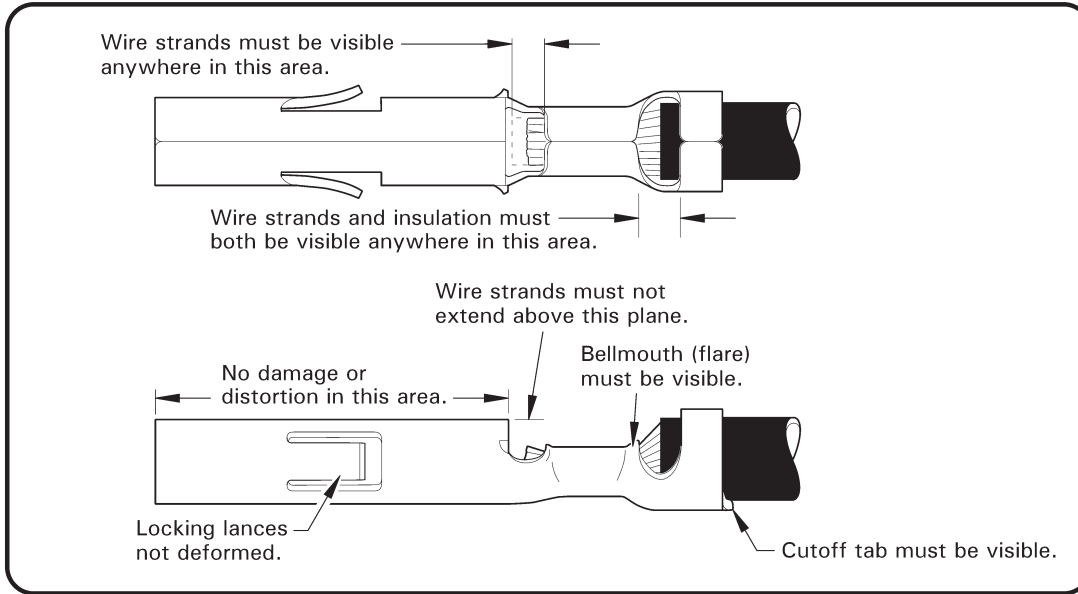
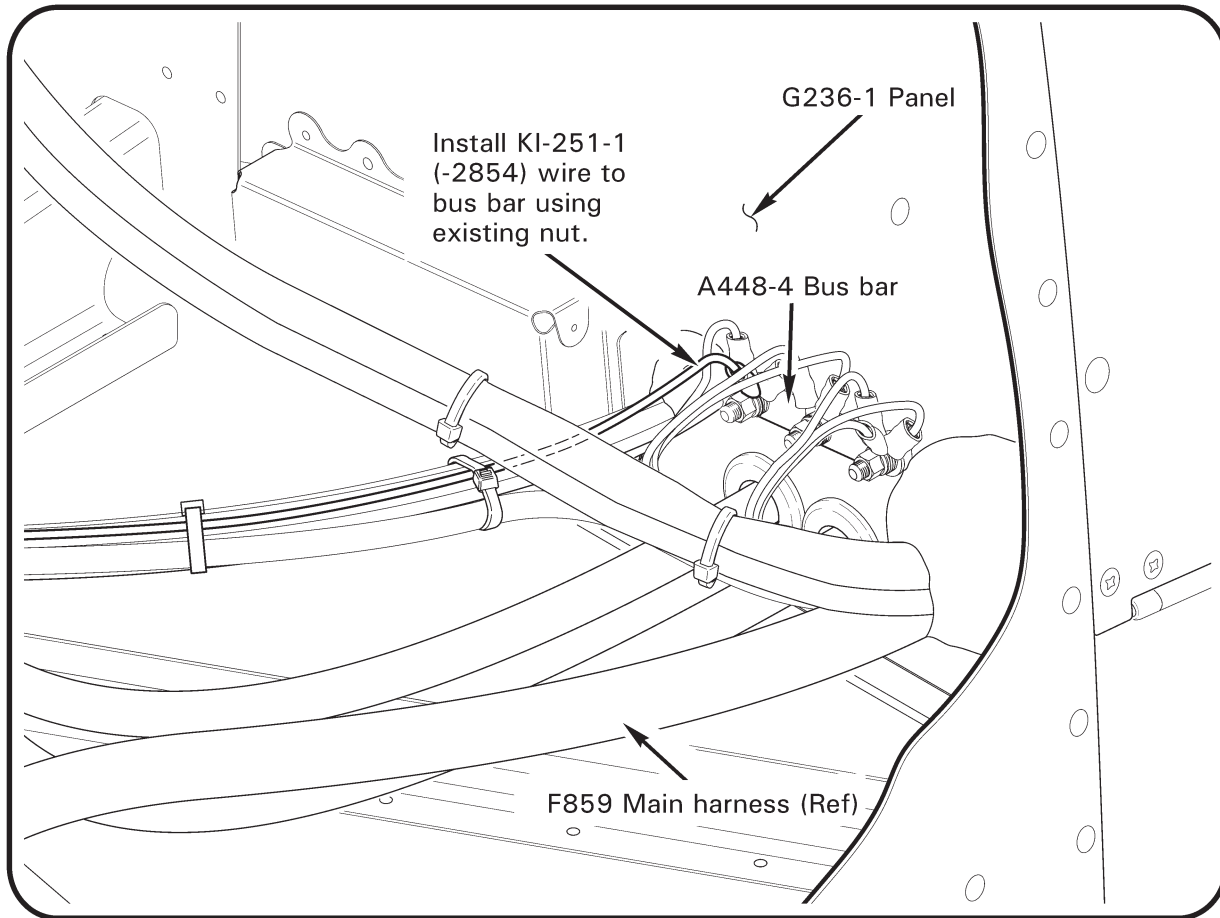

FIGURE 2 Crimp Inspection
FIGURE 3 R66 Bus bar ground location
- c. Route KI-251-2854 wire aft along main harness to wire (-2388). Trim wire (-2854) to length. Strip wire (-2854) and crimp B263-2 socket on wire. Perform crimp inspection per Figure 2. Verify security of socket.
R66-series helicopters: Refer to Figure 3. Gain access as necessary.
- f. Route KI-251-2854 wire aft along wire bundle (as shown in Figure 3) to wire (-2388). Trim wire (-2854) to length. Strip wire (-2854) and crimp B263-2 socket on wire. Perform crimp inspection per Figure 2. Verify security of socket.